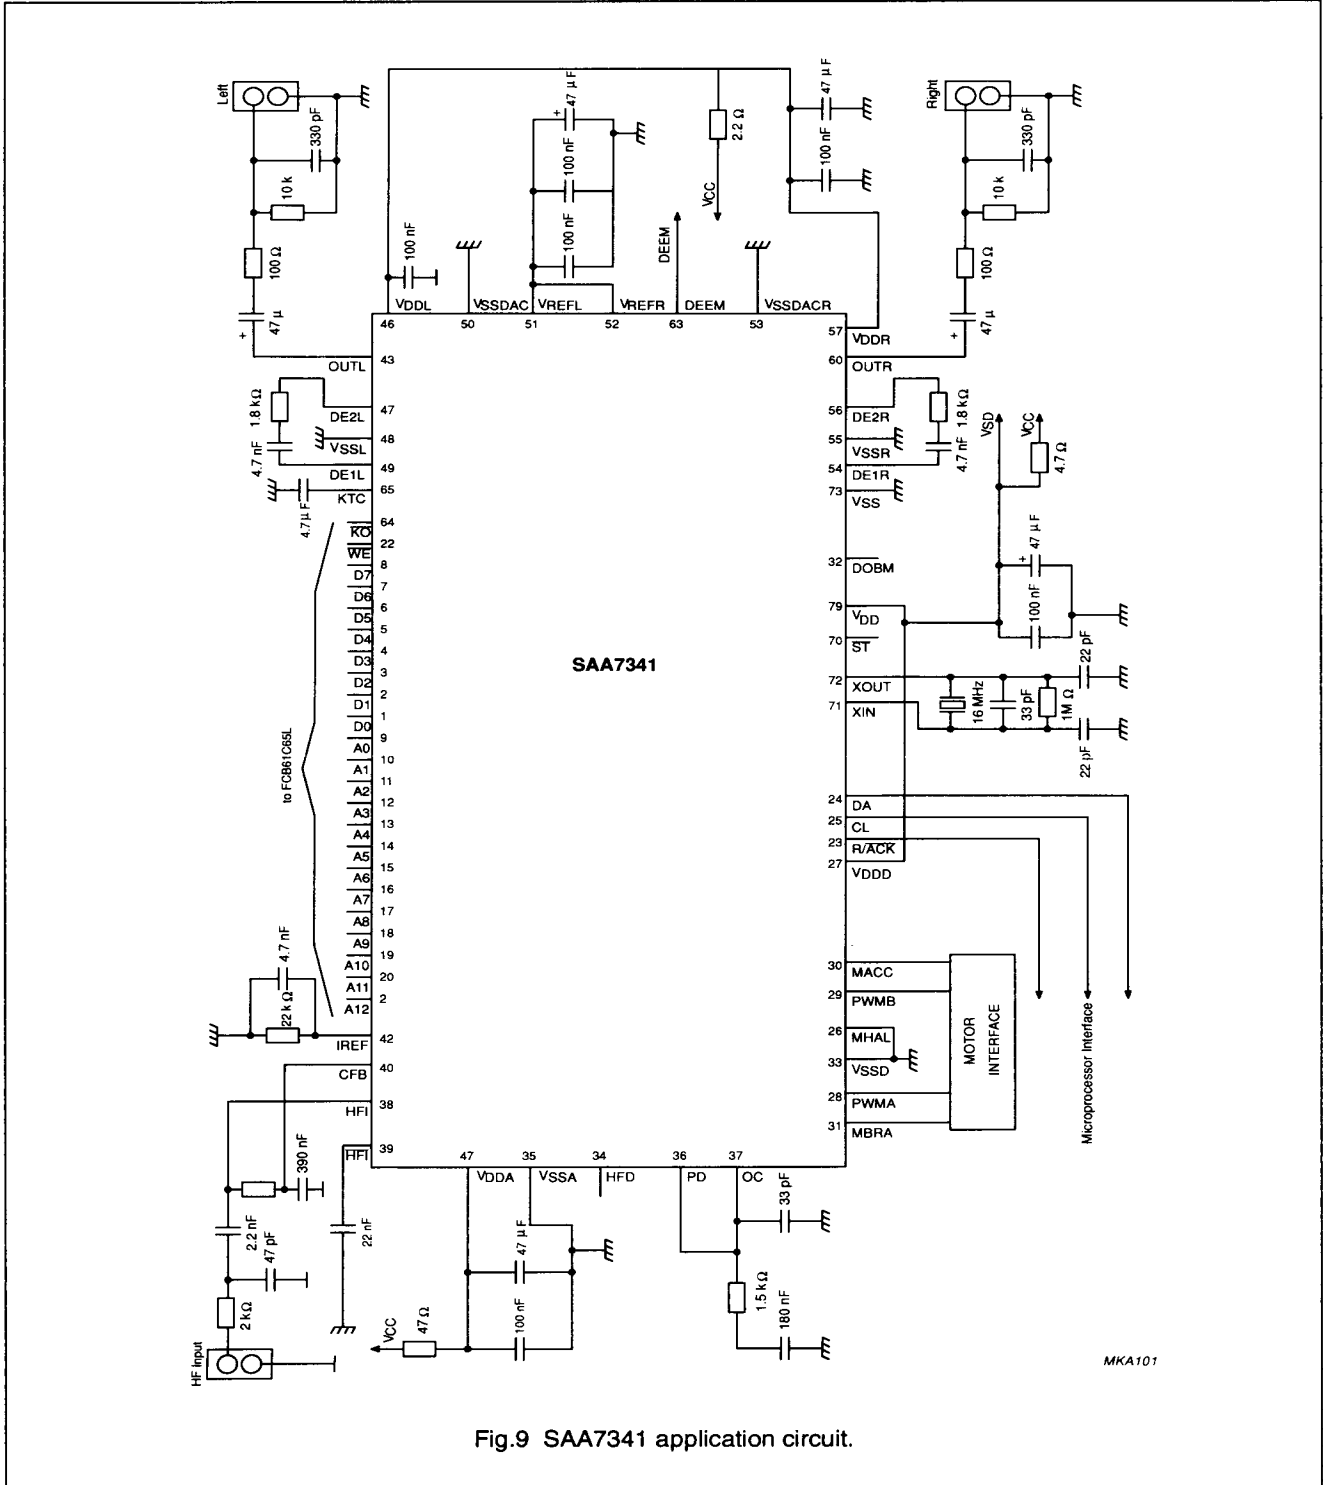

Fig.9 SAA7341 application circuit.
2. Maximum load recommended on OUTL, OUTR, is 5 k $\Omega$ , 100 pF. Device measured with external components shown in recommended application diagram (Fig.9). Maximum digital code.